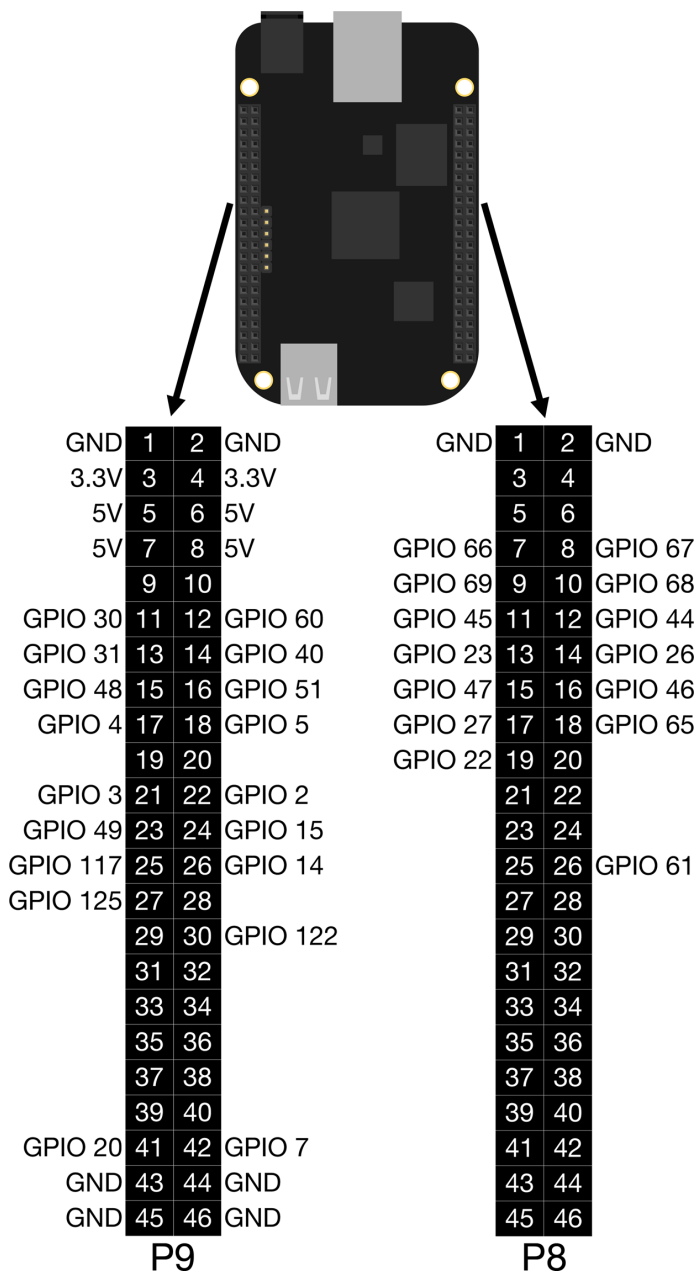

Figure 4-4. The GPIO pins (BeagleBone illustration courtesy of the Adafruit Fritzing library)
Unfortunately, the way that you'll refer to each pin within the Linux filesystem is not the same as the pin numbers printed on the board. Even if you look at BeagleBoard.org's System Reference Manual to get the signal name, there's still a little work done to determine the Linux signal name that you need. For the tutorials in this chapter, I've provided a quick reference to a few of the pins in Figure 4-4, but in case you want to use any of the other pins on the board, here's how to derive the number you'll need:
You may have noticed that we've only labeled a few pins in Figure 4-4 and here's why: many pins can be assigned different functions, not just digital input and output. This feature is known as pin multiplexing or "pin muxing" and it can make things a little tricky. For this tutorial, I'm using pins that default to GPIO mode when the BeagleBone is powered on. Many of the pins default to other modes. Keep in mind that the defaults can also change as updated versions of Ångström are released for the board.
Referring to Figure 4-4, you know to use GPIO signal 44 within Linux for pin 12 on header P8 and you know that it's set to work in GPIO mode by default. With that knowledge, you're ready to use the command line to control that pin:
If you saw the LED illuminate after writing 1 to its `value` file and it turned off when you wrote 0 to the `value` file, congratulations! Feel free to experiment with the other pins in Figure 4-4.
5. Let's get back to the command line now. First, export the pin to the user-space and change to its directory. According to Figure 4-4, pin 11 on header P8 is GPIO signal 45, so that's what we'll export.